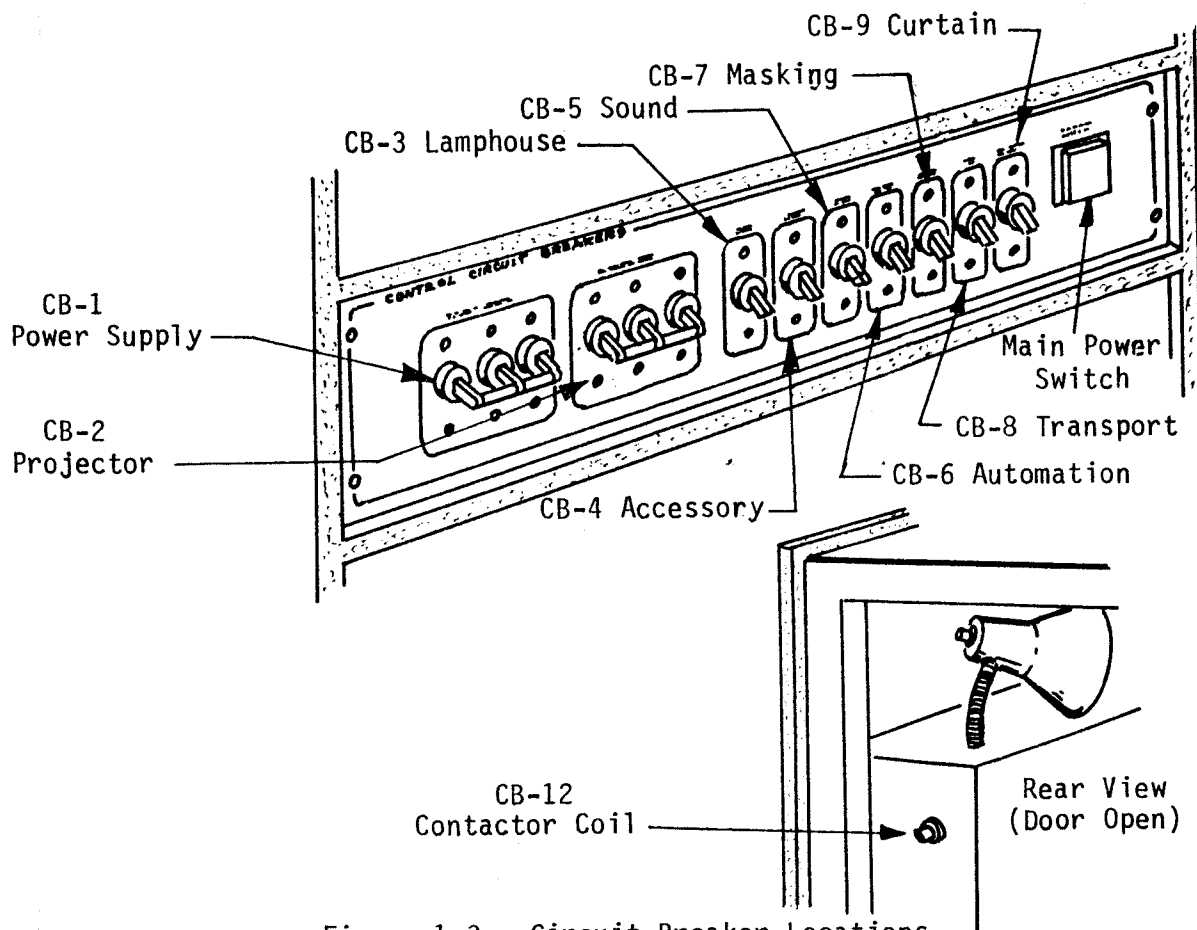

Figure 1-3. Circuit Breaker Locations
1.4 CIRCUIT BREAKER CONTROLS (Figure 1-3)